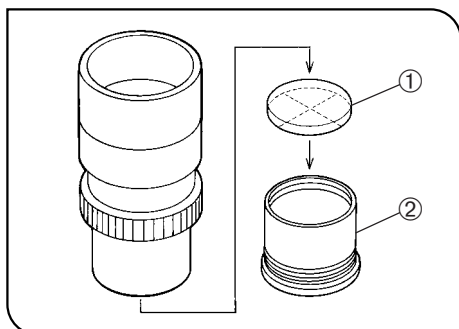

Fig. 24
4 Using Eyepiece Micrometer Disks (Fig. 24)
Following Fig. 24, remove the micrometer mounting frame ② from the eyepiece and place a micrometer disk ① into the mounting frame so that the surface with the model indication faces downward.